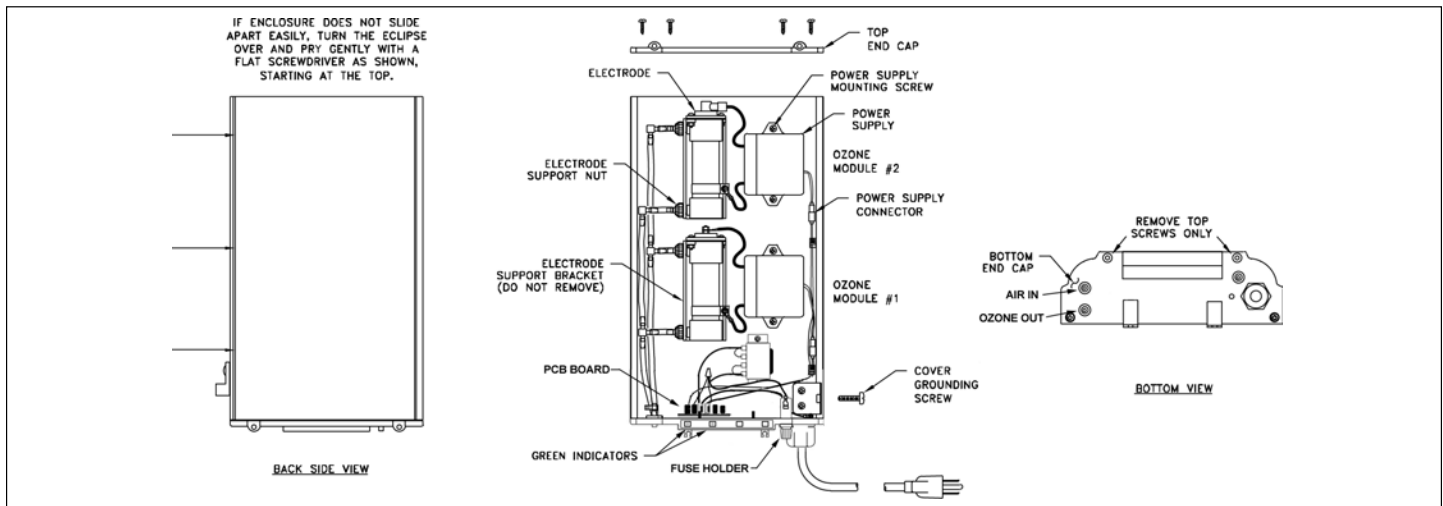

Figure 4 Component Locations (Eclipse-2 Shown). Additional transformers are used on 240V models, which are not shown in this diagram.
4. The base of the DELZONE® Eclipse has two hose connections. Connect the 1/4" end of the ozone supply tubing to the port marked "OZONE OUT" (see Bottom View - Figure 4).
Refer to Figure 4.
4C Generator Servicing - Refer to Figure 4
NOTE: If the two halves do not slide apart easily, turn the DELZONE® Eclipse over and use a screwdriver to pry the cover off as shown in Figure 4.